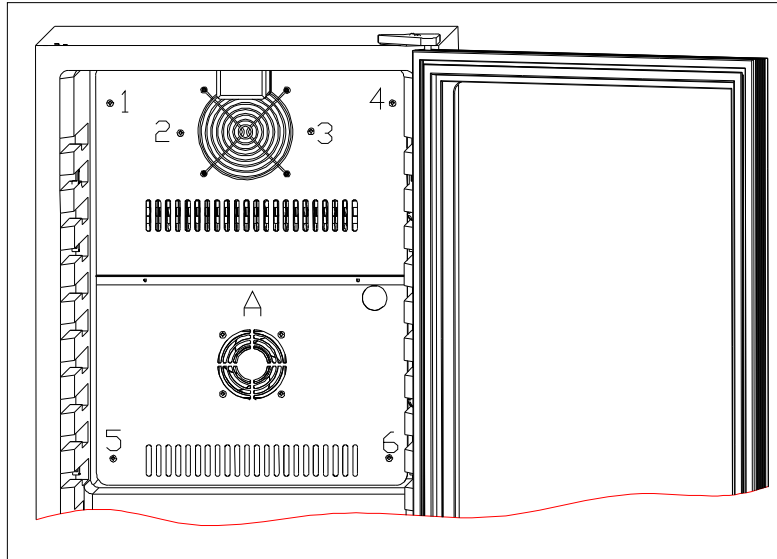
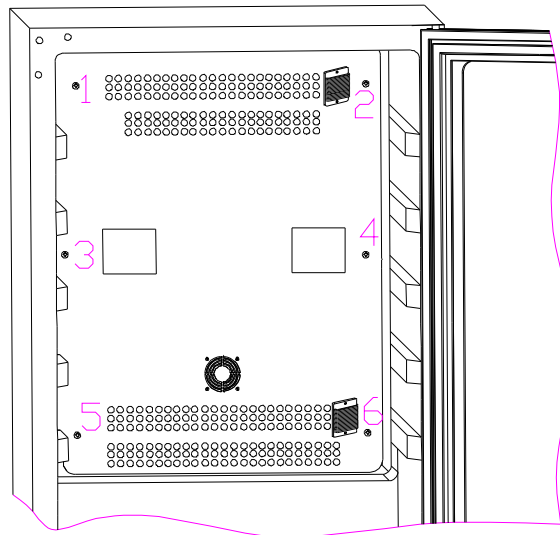

Fig.17
Fig.18
a. Remove the fixing screws of air duct board (1,2,3,4,5,6), then pull out air duct board (A). See (Fig 17)
b.Remove the fixing screws of air duct board (1,2,3,4,5,6), then pull out air duct board (A). See (Fig 18)
3). Remove the air duct board. See (Fig.17 &Fig.18)